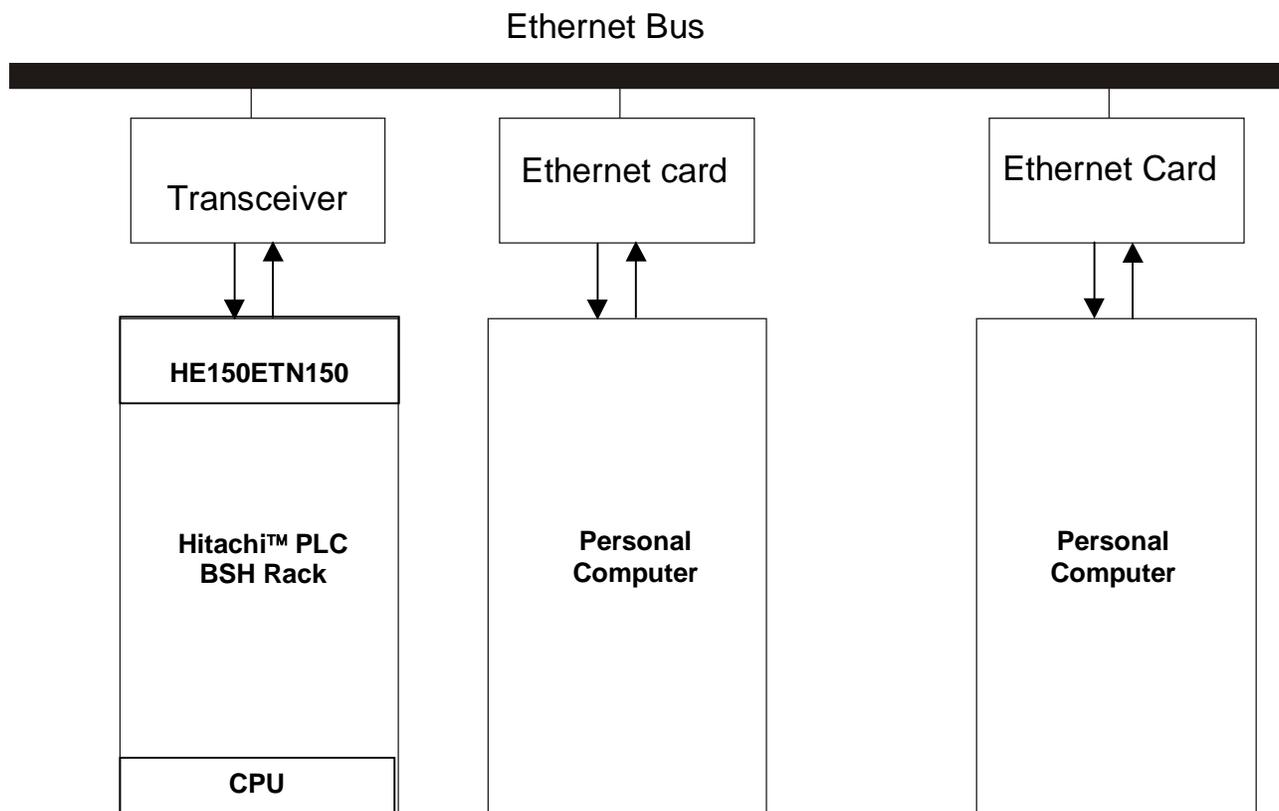

Figure 1.1 – Network Overview
The HE150ETN150 is an Ethernet TCP/IP communication module for the Hitachi™ H-252 Series. It enables point-to-point communication from a Personal Computer (PC) to a single H-252 series PLC over an existing Ethernet network (see Figure 1.1). It uses a TCP/IP protocol under a standard Hitachi Ethernet layer. The HE150ETN150 is configured using specialised Configuration Software. (See Chapter 2 for software configuration details.)